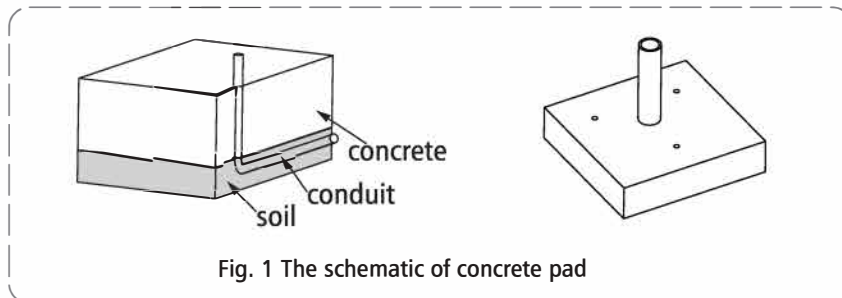
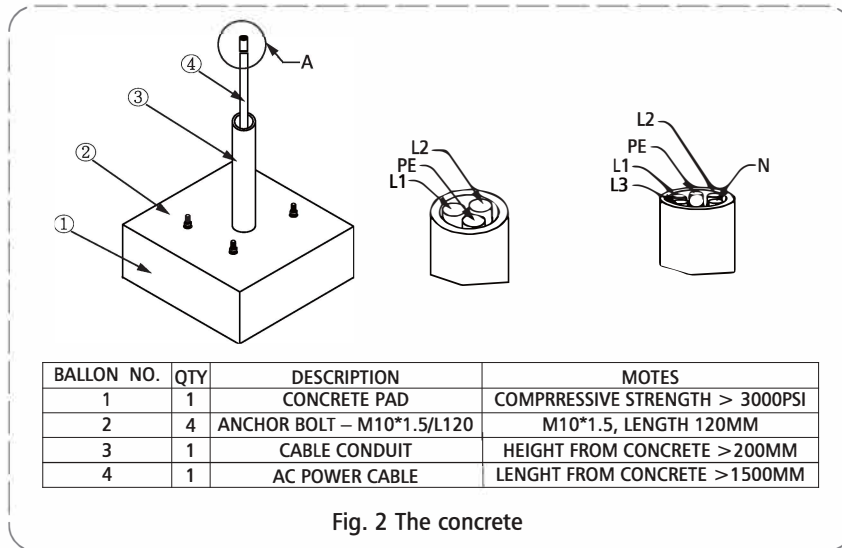

Fig. 1 The schematic of concrete pad
Fig. 2 The concrete
- First, need build the concrete pad for pedestal, the compressive strength must be over 3000psi, reference picture is shown as Fig. 1 & Fig. 2, and the concrete pad dimensions(Space: W400mm X L400mm X H500mm) is shown as Fig. 3.